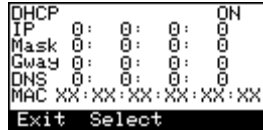

Figure 12 - Network Settings Menu
- If **Network** is selected (**Select Port, Figure 12**) prior to power up, SlideMate will automatically start looking for network settings